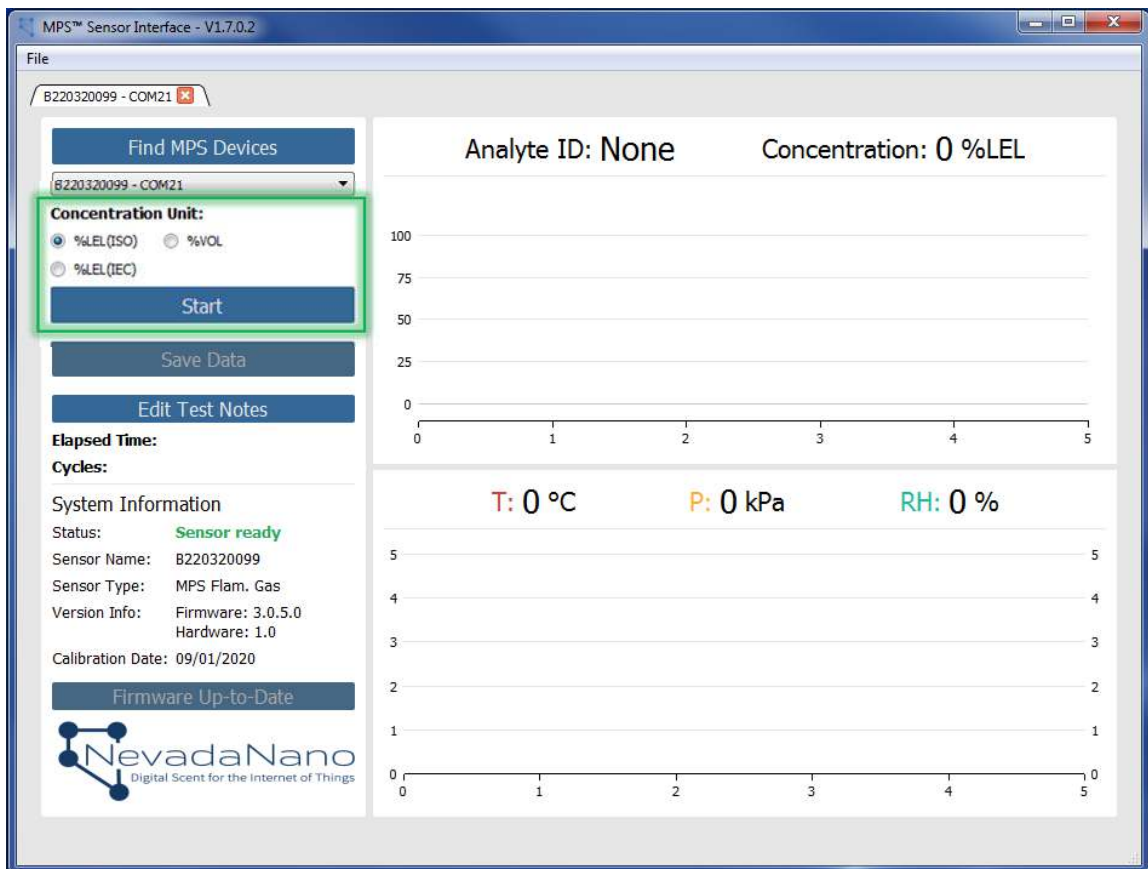

Figure 6 – MPS™ Flammable Gas Sensor Evaluation Software ready for testing. Sensor name is populated and start button is enabled.
1. After performing system setup, the concentration unit selector and start button will be enabled (highlighted in green in Figure 6). **IMPORTANT:** Start the flow of zero-air baseline gas over the MPS Flammable Gas Sensor and wait ~1 minute for baseline gas to replace ambient air before proceeding. Select the desired concentration unit (%LEL(ISO), %LEL(IEC)², or %VOL) and click Start to begin data acquisition. Once the test starts, the concentration unit cannot be changed until the test finishes.